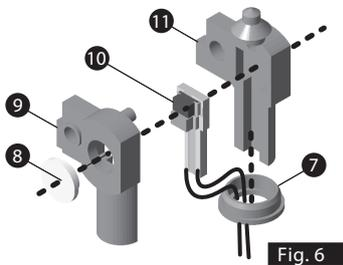

Fig. 6
8. Insert circuit board with LED into lantern-case (9, 11) as shown in Fig. 6. Put both parts of the case together and then mount the base of the lantern-case. Finally insert white filter-lens (8) into the opening. [Fig.6]